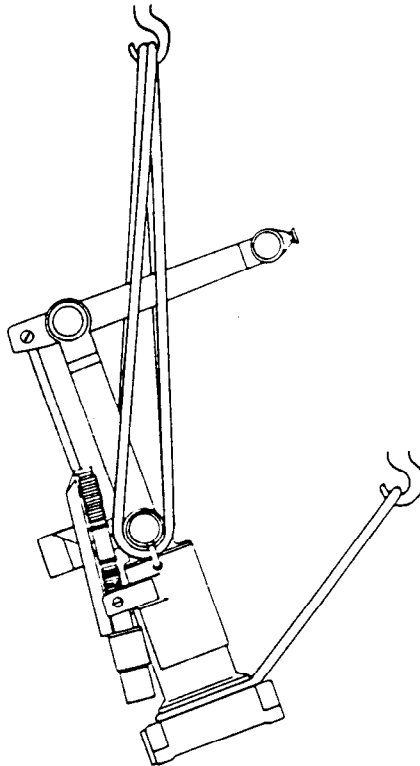

Figure 3-2
3. Raise the body slowly with the lower strap only to start the turning of the robot (see Figure 3-2).